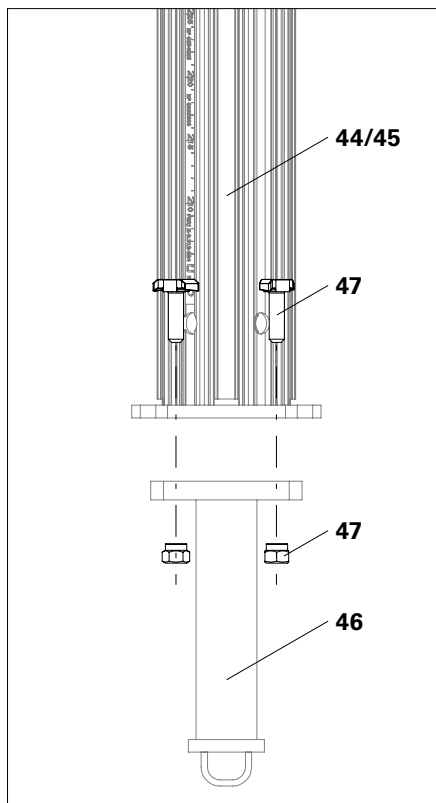

Fig. B1.02b
1. Fix the Compression Brace Head MP/SRU (46) to the MULTIPROP MP (44/45) with 4x MULTIPROP bolts and nuts (47). (Fig. B1.02b)